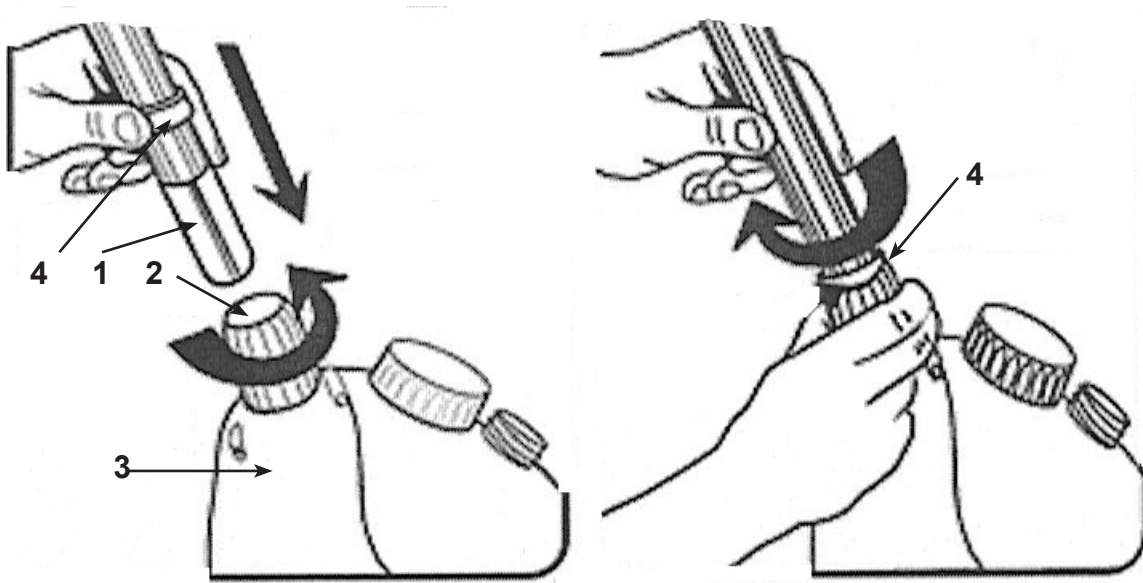

Figure 1
1. Turn Collar (2) counterclockwise to loosen. Insert the Extension Handle (1) into the Collar (2). Tighten the Collar (2) with clockwise motion until it is snug and the Stop-Ring (4) is located just above it. See **Figure 1**.